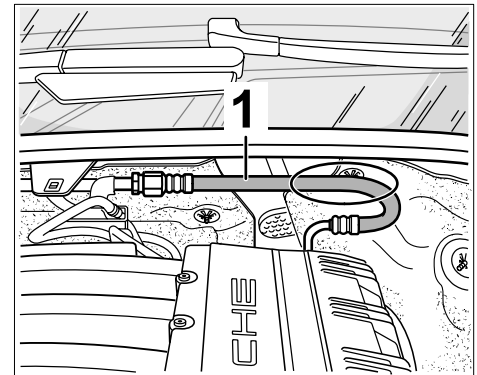

Figure 1
- 3 Check the top of the fuel line ⇒ *Figure 1 -1-* in the area before the bend ⇒ *Figure 1 -circle-* for visible signs of damage (chafing).